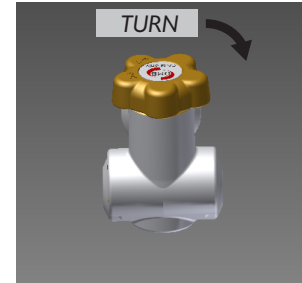

FIGURE 4 – CYLINDER MANUAL SHUT-OFF VALVE
2. Turn the valve clockwise until handle stops. (Figure 4)